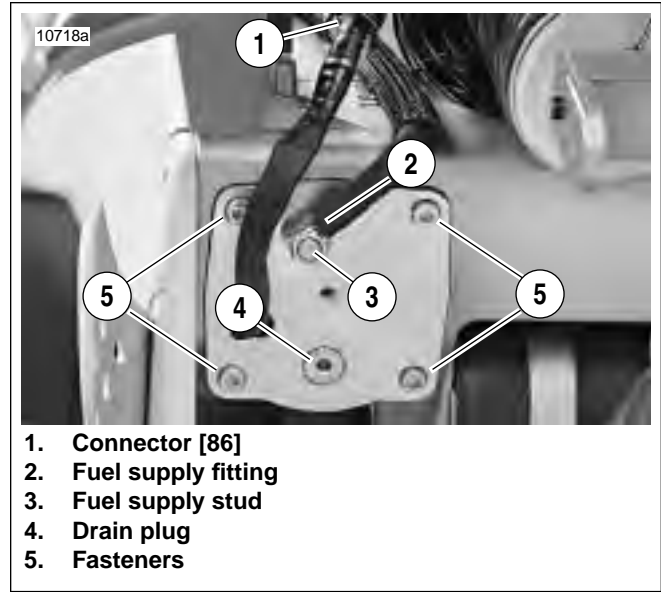
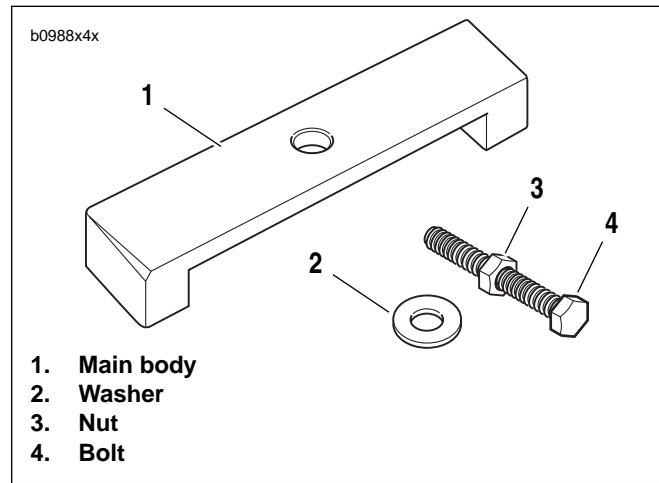
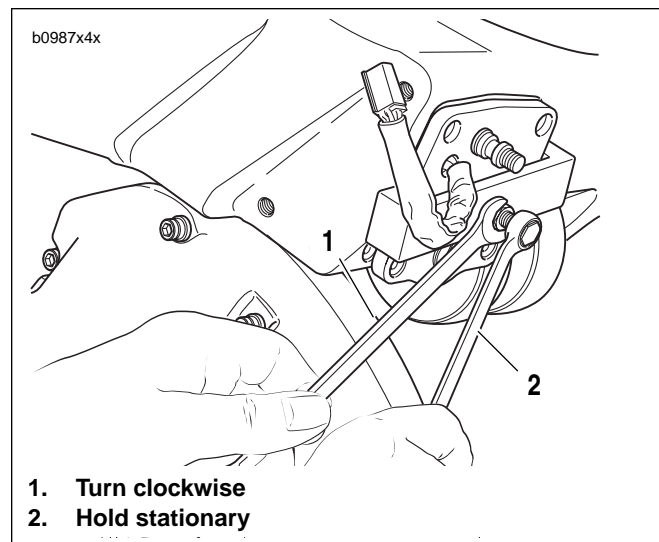

Figure 4-92. Fuel Pump Installation
Figure 4-93. Fuel Pump Puller
Figure 4-94. Fuel Pump Removal
- a. See Figure 4-92. Disconnect the 4-place fuel pump connector (1) [86]. Connector is located inside the left rear portion of the fuel tank/frame.
4. See Figure 4-92. Remove fuel line from fuel supply fitting (2).
5. Remove four fuel pump fasteners (5).
6. See Figure 4-93. Assemble fuel pump puller.
- a. Thread nut (3) onto bolt (4).
- b. Slide washer (2) onto bolt.
- c. Insert bolt assembly into hole in main body (1).
7. See Figure 4-94. Place the main body of the fuel pump puller over the fuel pump assembly.